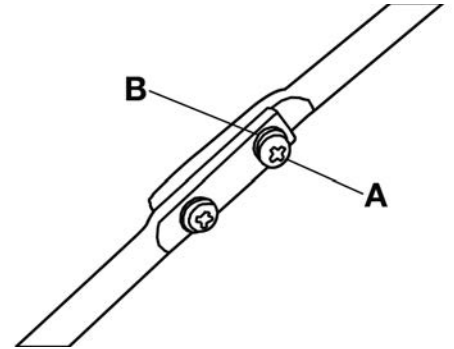

FIGURE 13
12. Tighten the screws (A) and spring washers (B) Fig.13 into the aligned holes using a Phillips screwdriver.